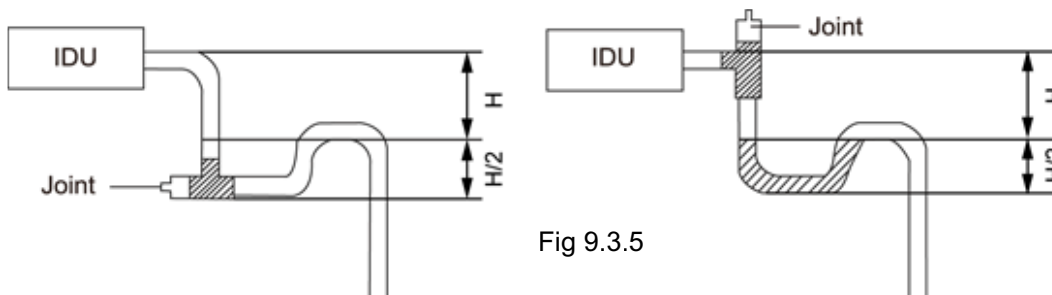

Fig 9.3.5
- (5) Install the trap as shown in following Fig 9.3.5
- (6) Install one trap for each unit.
- (7) Convenience for cleaning trap in the future should be considered when installing it.